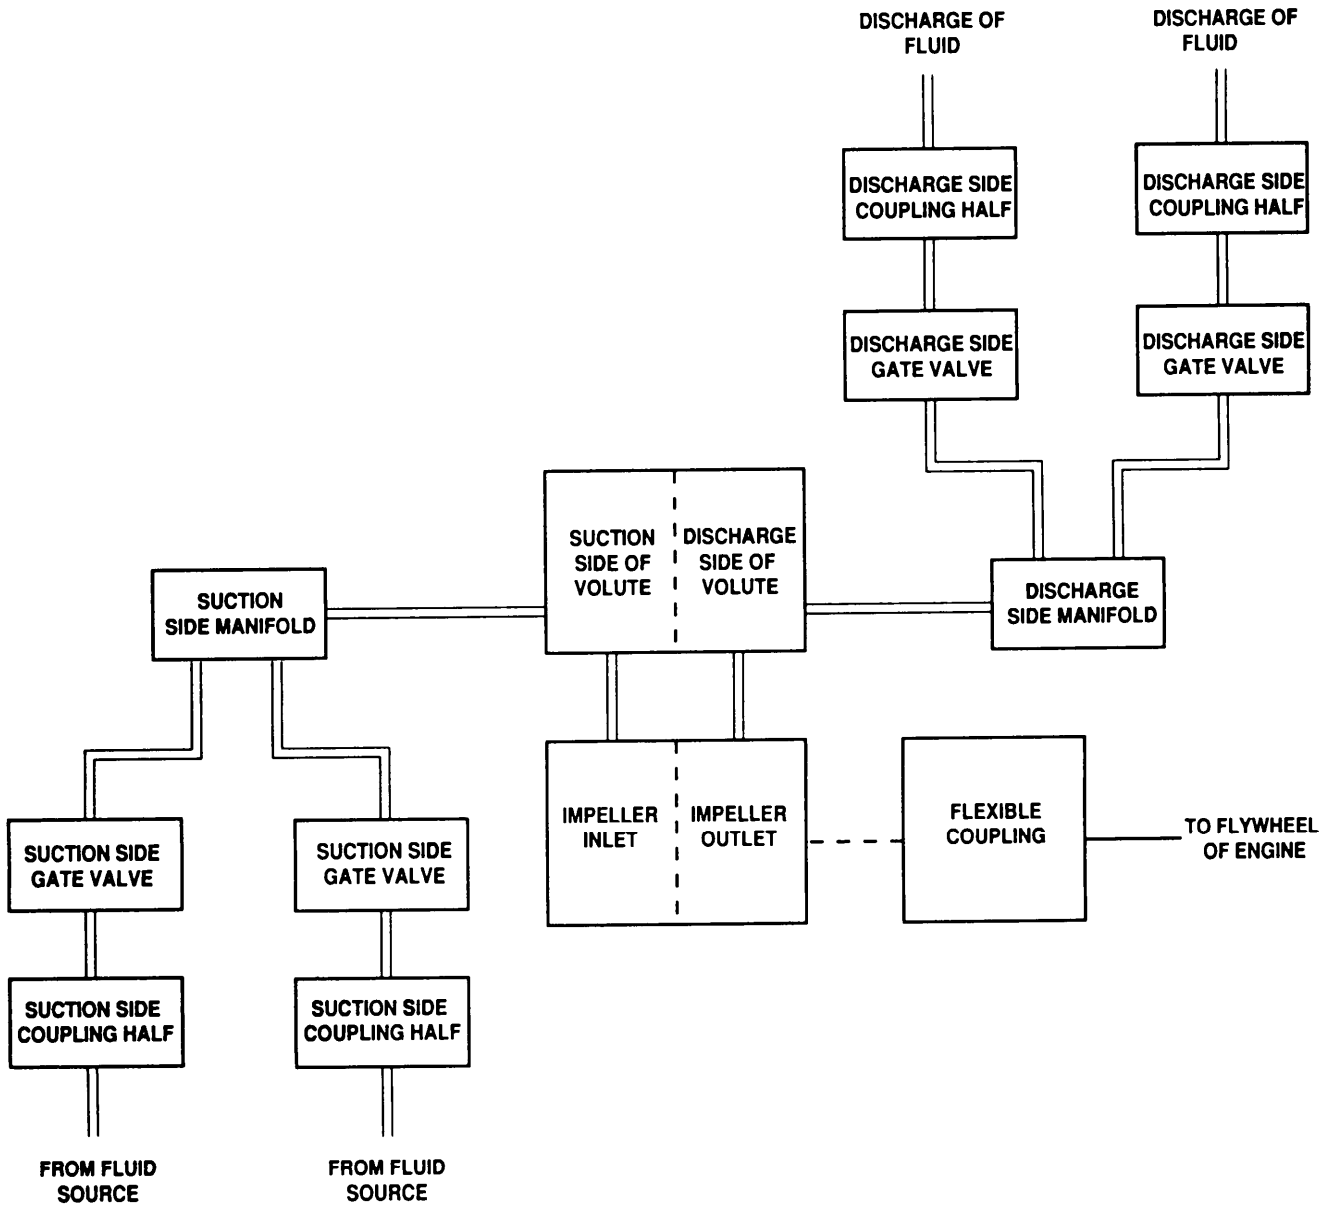

Figure 1-9. Pump Assembly Functional Block Diagram.
1.14.2.7 Pump Assembly. The pump assembly transfers fluid from one point to another point. Figure 1-9 is a functional diagram of the pump assembly. The fluid is brought into the 350 GPM pump via the suction section. The suction section provides two suction inputs. Each suction input has a valve that controls the size of opening to the suction side of the pump. In addition, each suction input has a coupling half to connect to the fluid source. Both suction inputs are connected to the suction manifold. The suction manifold is connected to the suction side of the volute. The suction section consists of two coupling halves, two gate valves, and the suction manifold.